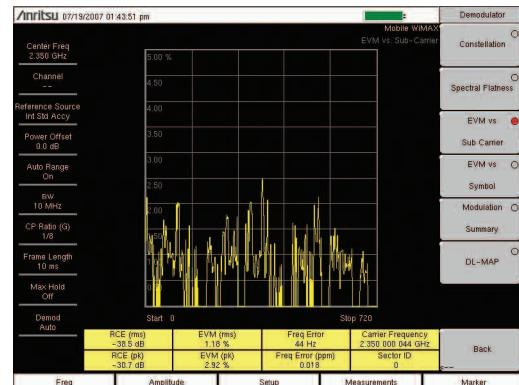

Figure 7. EVM versus Subcarrier view.
2. Press the EVM vs. Subcarrier soft key to activate the measurement. The red dot on the soft key indicates it is selected (Figure 7).